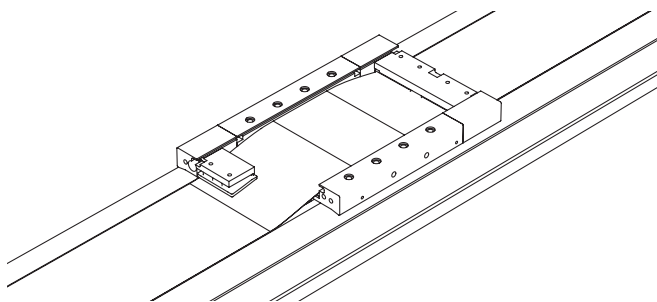

Fig. 7.14 Guiding the cover strip
- ▶ Lay the cover strip on the magnetic strip of the axis base profile and guide it over the carriage profile (see Fig. 7.14).